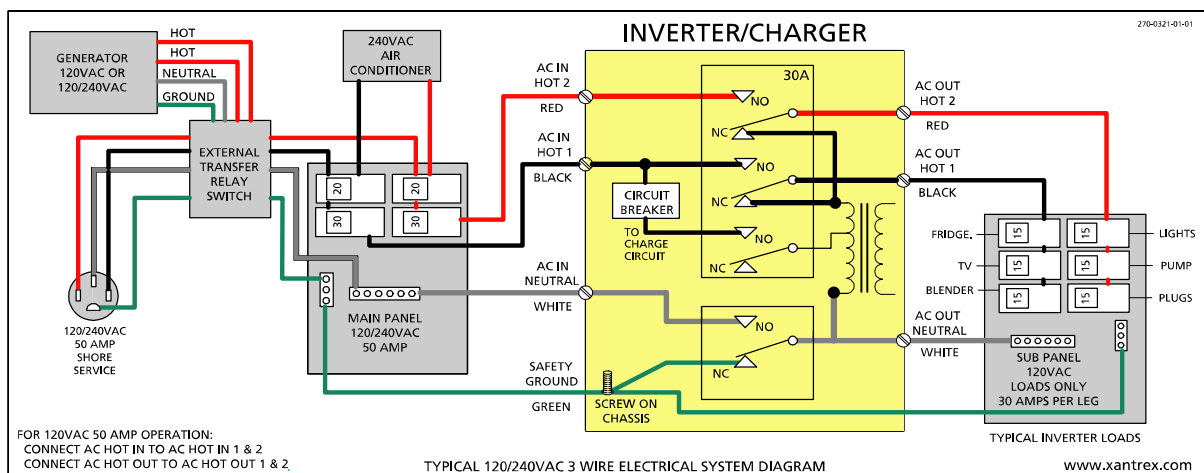

Figure 2-2 Installation with an External Transfer Relay
3. Feed the wires through the Romex connectors on the right side of the inverter's case. Romex strain reliefs can be replaced with conduit fittings. See Figure 2-2 on page 2-7.